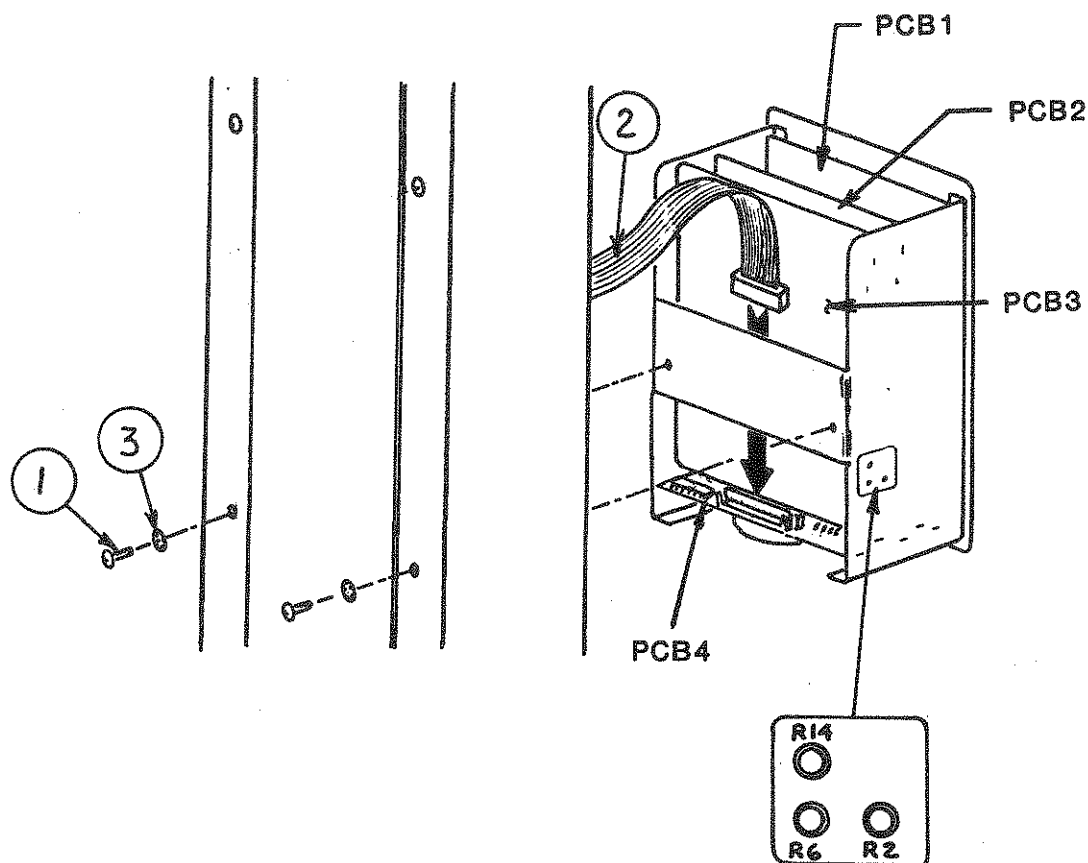

FIGURE 5.2 CONTROLLER MODULE REMOVAL AND REPLACEMENT, AND ADJUSTMENT AND CONNECTION POINTS.
1. REFER TO FIGURE 5.2 and remove the two mounting screws (1) and Lockwashers (3) that secure the Controller to the Mounting Post and unmount the Controller.